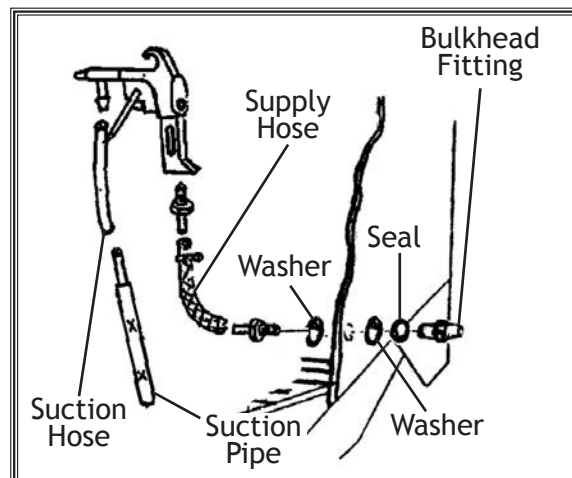

Figure 3. Blast gun assembly.
4. Install the bulkhead fitting with the seal (**Figure 3**).
5. Attach the air supply hose and suction hose to the bulkhead fittings and suction pipe with the hose clamps (**Figure 3**).